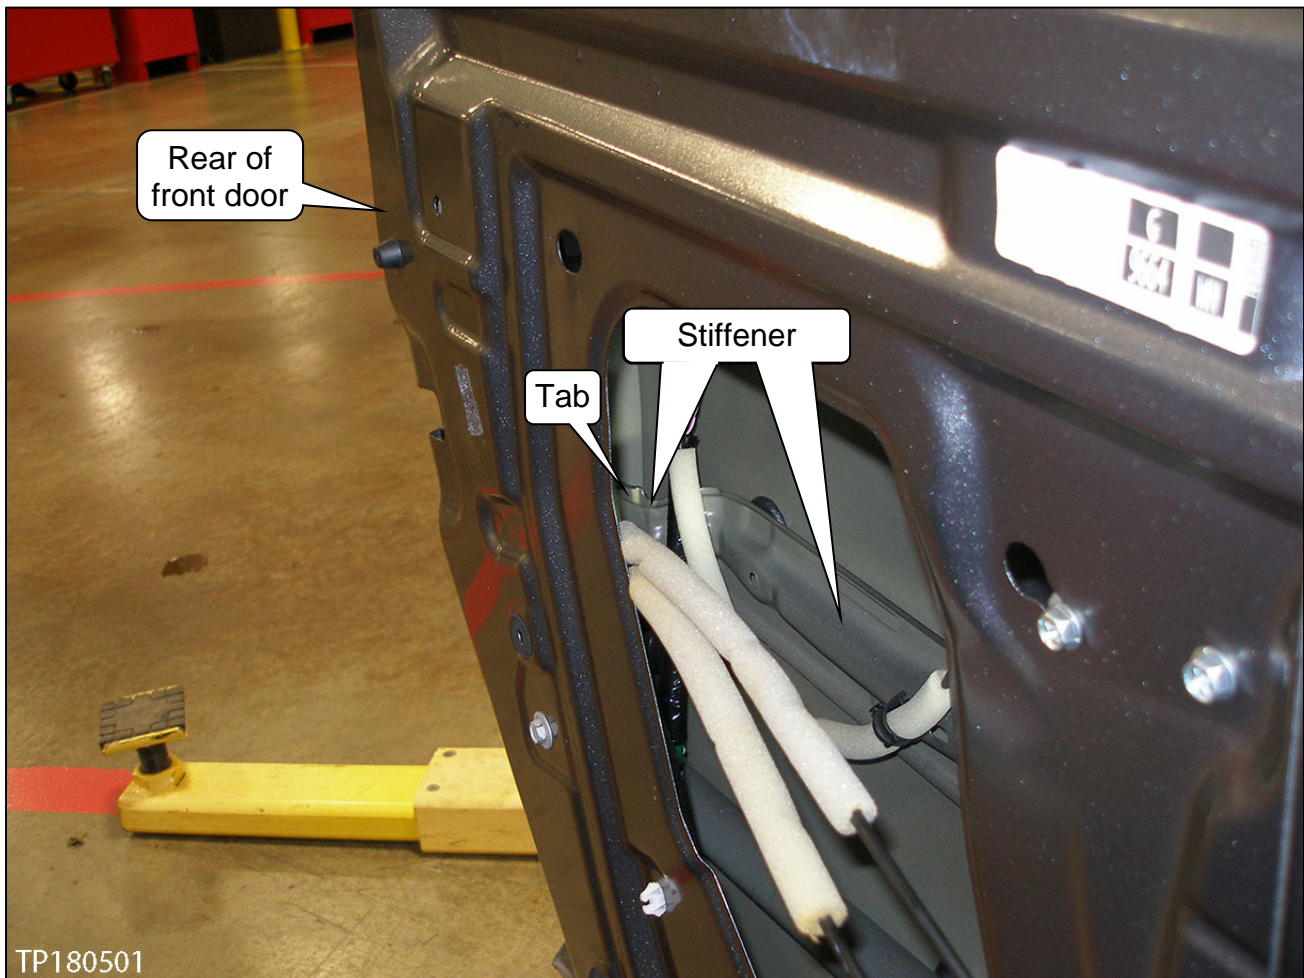
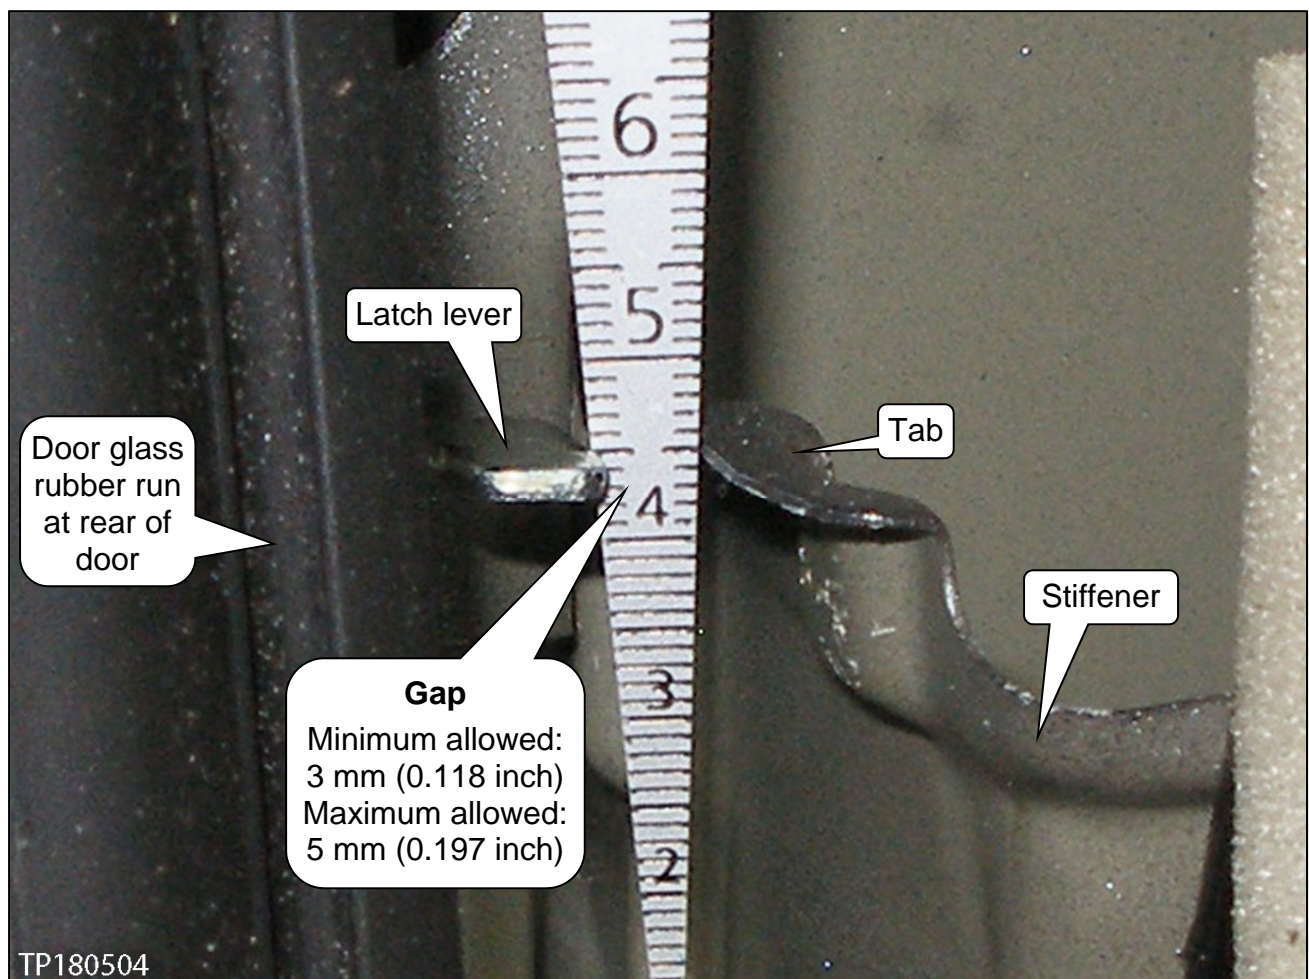

Figure 1
Figure 2
- Refer to Figure 1 below, and Figure 2 on the next page.